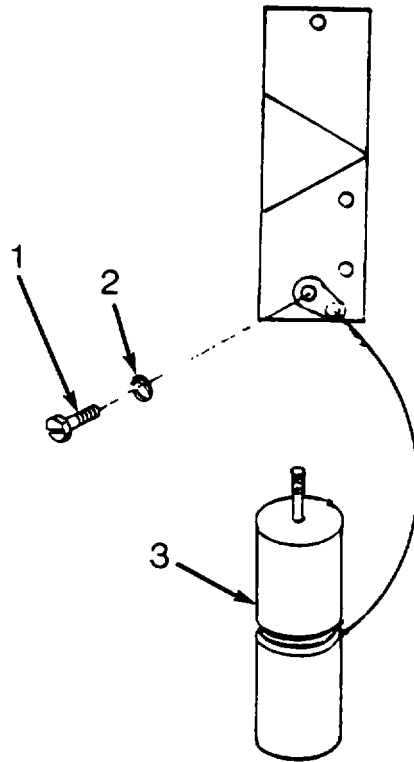

Figure 4-21. Door Blackout Lockpin Assembly
a. Inspect. (See Figure 4-21.)
(1) Inspect lockpin on interior side of door for any damage which would prevent insertion into the door locking mechanism.
(2) Inspect lockpin cable for strength and security of attachment to pin.
b. Replace. (See Figure 4-21.)
(1) Remove cable mounting plate bolts (1) and lockwashers (2) from blackout lockpin assembly which also secures the center latch plate.
(2) Remove lockpin assembly (3).
(3) Position new lockpin assembly (3) on latch plate and secure with bolts (1) and lockwasher (2).
b. Replace. - Continued (See Figure 4-21.)